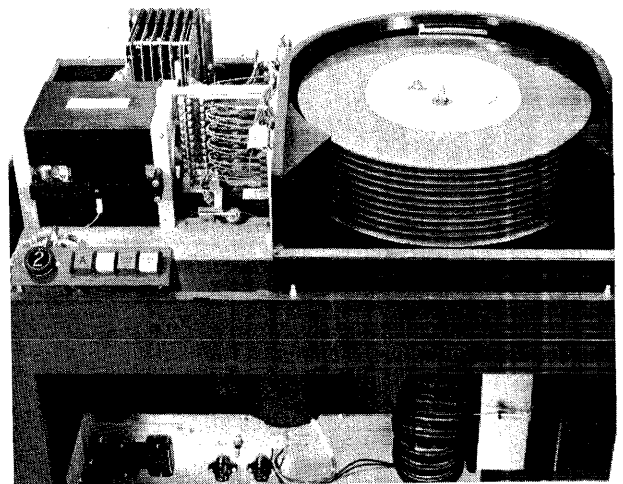

Figure 4-11. Panels and Covers Removed
- a. Remove front and rear panels, and remove top right- and left-hand covers (see Figure 4-11).